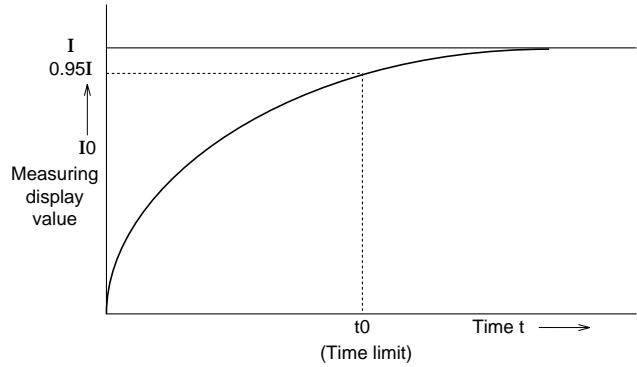

Fig.7.26 Demand Characteristics
An average value is a value close to an average within the demand time limits. Also, demand time limit (t_0) means a period until measuring display value (I_0) indicates 95% of input (I) when a certain input (I) is continuously turned on. It takes about three times as long as the time limit (t_0) until it indicates 100% of input (I) (Fig. 7.26).